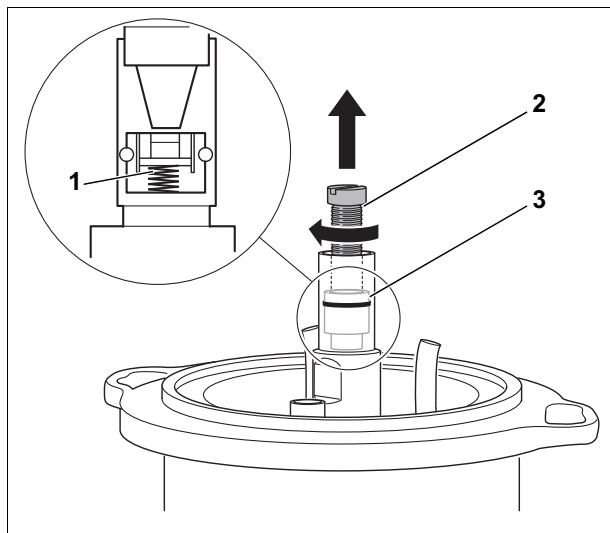

Fig. 26 Replacing shutoff valve
The shutoff valve (Fig. 26, **Item 3**) in the oil preheater works like a after-drip preventer. The oil pump forces the oil through the shutoff valve when it is operating. When the pump switches off, the shutoff valve is closed by the force of the spring (Fig. 26, **Item 1**).
- Screw in the M5x50 bolt (Fig. 26, **Item 2**) and pull out the shutoff valve (Fig. 26, **Item 3**).